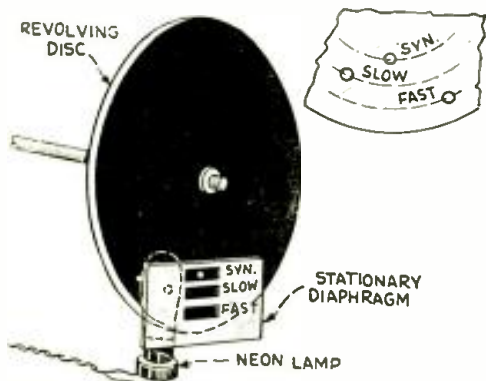

Fig. 4—Improved dial which indicates synchronous speed and also "slow" or "fast".
Fig. 4 shows an interesting dial which, in conjunction with three holes drilled in the scanning disc, will indicate whether the disc is revolving at synchronous speed and also "slow" or "fast". This idea is to be used in conjunction with that shown in Fig.
2. One must take care to see that the disc holes used for indicating synchronism, as shown in Fig. 4, are drilled or punched in a different part of the disc than those used for scanning the image.